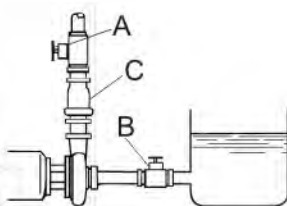

Figure 8 - Pump Below Supply
- 2.1.1 Fill supply tank with liquid; open supply line valve (suction) (See Figure 8 item B).
- 2.1.2 Vent any air trapped in supply line or casing by opening the discharge valve. (See Figure 8 item A).